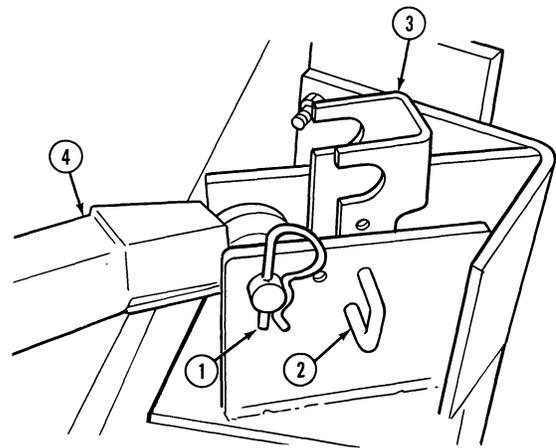

Figure 4
7. Pull the "J" pins (2), Figure 4, and rotate the latch bracket (3), into place over the lift arm clevis pin. Place the "J" pins in their locked position.
6. Install the clevis pins thru the mount brackets and ball sockets in the lift arms, and retain with 3/4" flat washers and hairpin clips as shown in Figure 4.